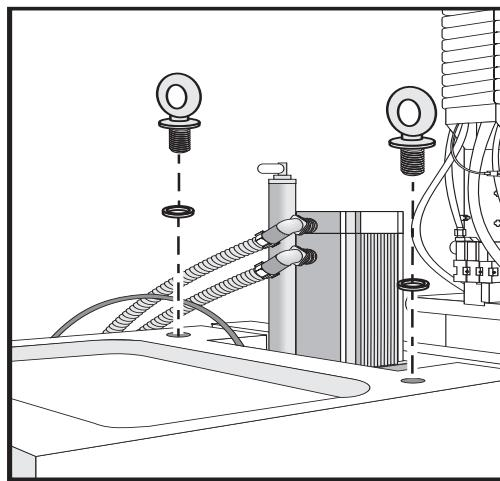

Fig. 2-2 VF-5 eyebolt locations on top of column.
2. Install (2) 5/8" x 1 x 1 $\frac{1}{16}$ " eyebolts and (2) 3/4" hard washers to the column as shown in Figure 2-2. Tighten securely.